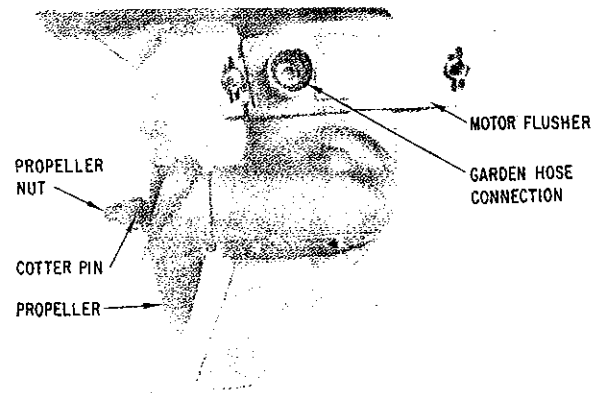

Figure 17. Motor flusher should be used to remove salt deposits.
- (5) After every salt water use, run the outboard motor in fresh water for approximately five (5) minutes using the available MOTOR FLUSHER to flush out salt deposit and to prevent possible corrosion following the steps below. (See Figure 17.)